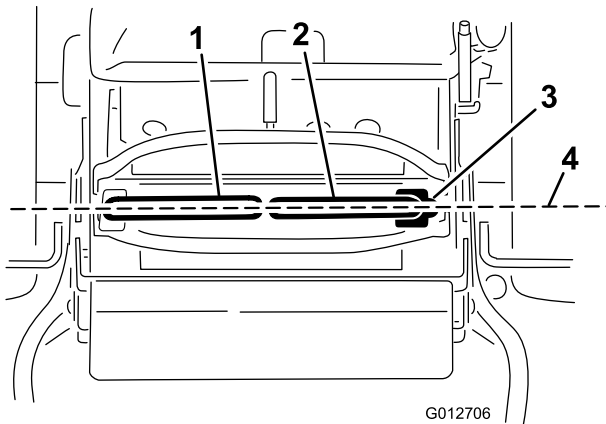

Figure 69
Important: Ensure the tracking of the mower is correct after adjusting the motion-control levers. Adjusting the tracking and aligning the motion-control levers front to back is the same procedure (Figure 69).
1. After the horizontal alignment is finished, check the front to back alignment by slightly pushing the control levers forward to take up any slack in the linkage for the control levers (Figure 69).